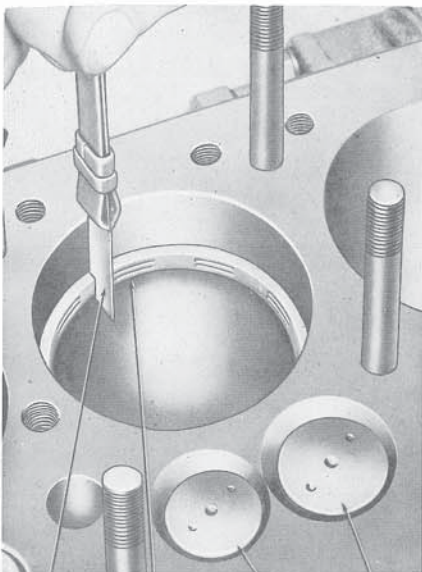

Fig. 14. Measuring Ring Gap
**Fit Piston Rings.** Insert ring in cylinder, square the ring in the cylinder with head of piston; then measure gap with a flat feeler gage (Figure 14). Clearance of .007 to .015 inch is recommended for both compression and oil rings. If clearance is excessive, replace ring. If clearance is under specification,